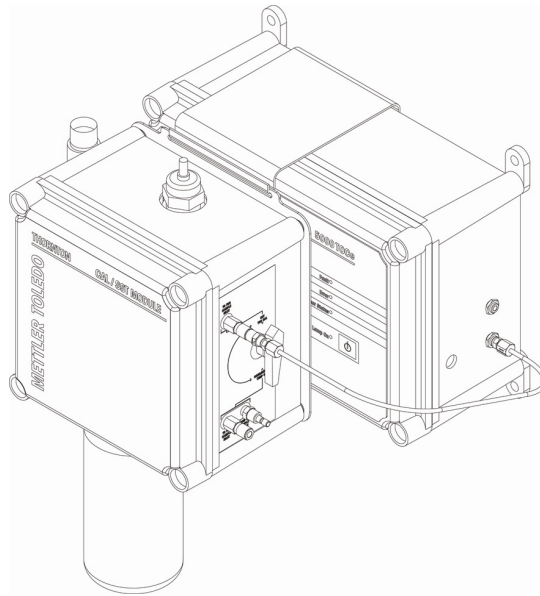

Figure 3
7. Re-connect the original drain tube to the Sample Outlet of the 4000TOC Sensor and run it to atmospheric drain. It is critical not to re-circulate this solution. Tubing should now appear as in Figure 3.
2. Set up equipment as shown in Figure 3 using Blank Water. Optionally, the flow rate verification and calibration may be done using process water, with the TOC sensor connected to the water system as normal.